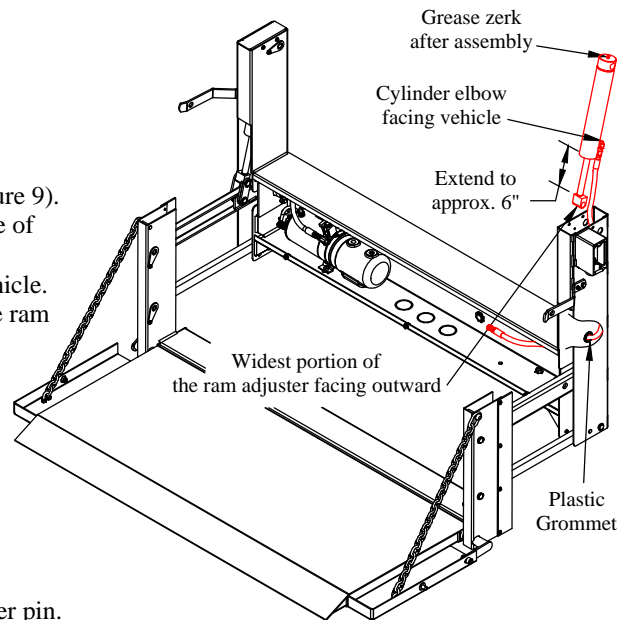

Figure 9: Install the cylinder and hose.
3. **PULL** on the ram adjuster extending the cylinder to approximately 6" (Figure 9).
4. **VERIFY** that the plastic grommet is still positioned in the hole in the inside of the upright (Figure 9).
5. **ROTATE** the cylinder shaft in the cylinder so that the widest portion of the ram adjuster is facing to the outside of the liftgate (Figure 9).
6. **LOWER** the cylinder and hydraulic hose through the top of the upright, guiding the hose end through the grommet in the upright (Figure 9).
11. **ATTACH** the control to the upright with the three (3) screws, if previously removed.
12. **GREASE** the zerk on the top of the cylinder (Figure 9).